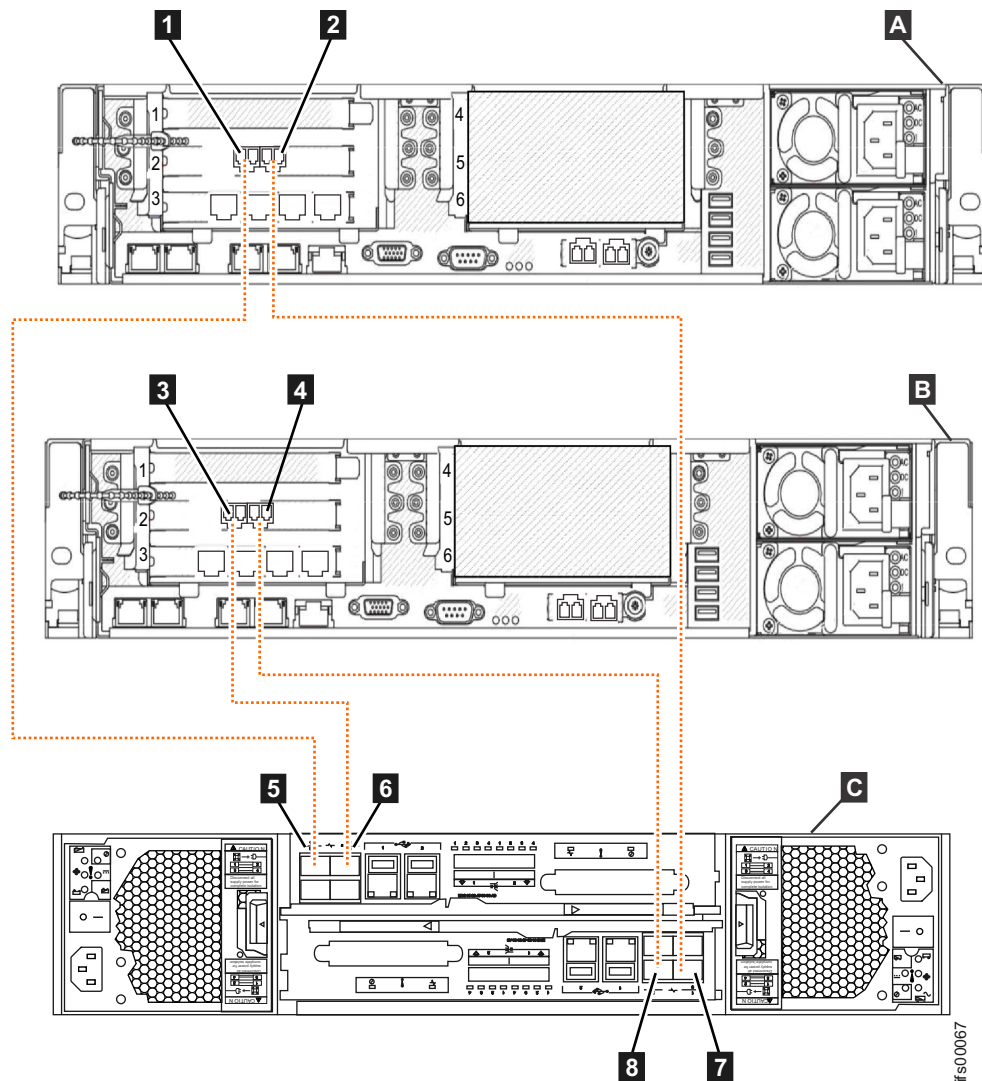
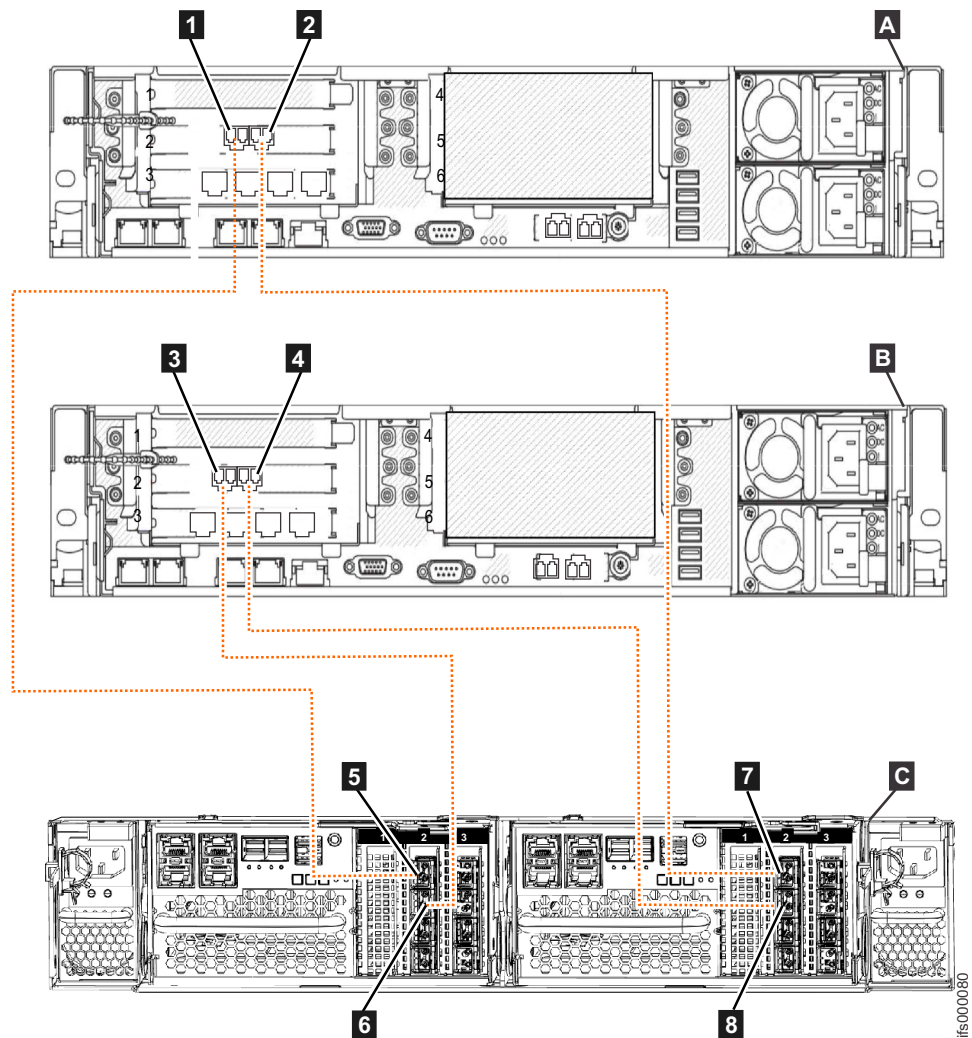

Figure 53. Connecting the file modules to the Storwize V7000 Gen1 control enclosure using Fibre Channel cables
Figure 54. Connecting the file modules to a Storwize V7000 Gen2 control enclosure that has a Fibre Channel interface adapter in PCI slot 2 of each node canister
3. Before you continue, make sure that you have connected the Fibre Channel cabling as shown in Figure 53 (Storwize V7000 Gen1) or Figure 54 on page 65 (Storwize V7000 Gen2) to ensure proper redundancy. Incorrect cabling might result in a loss of service during system maintenance procedures.